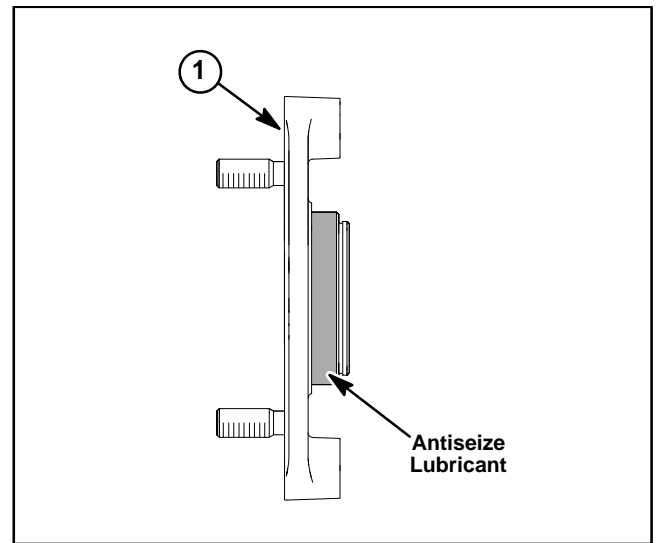

Figure 6
2. Apply antisieze lubricant to the outside diameter of the pivot hub (Fig. 6). Position idler arm over pivot hub.
3. Apply Loctite to two (2) socket head screws and secure pivot hub and idler arm to cutting unit side plate.